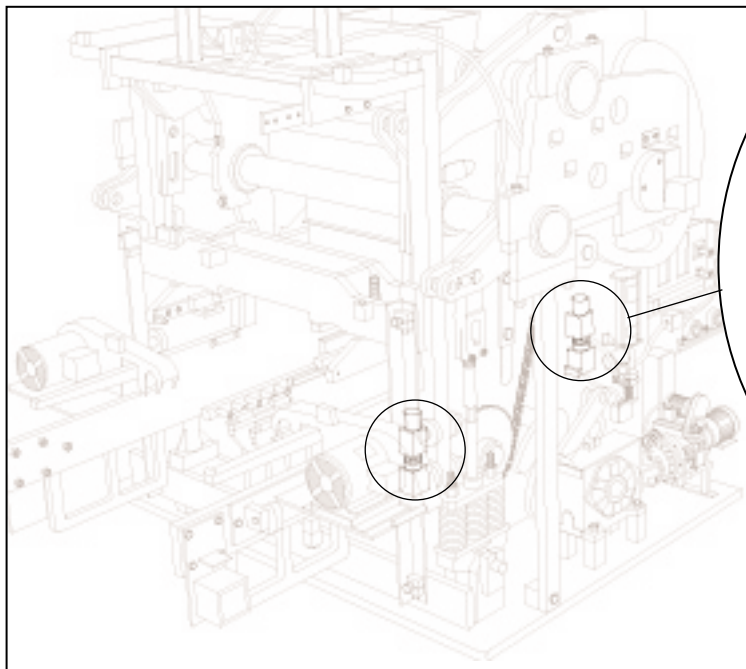

Figure 18.7 BOLTS AT ALL 4 CORNERS. (RIGHT SIDE SHOWN)
b. Loosen bolts at all 4 corners that secure mold throat assembly (See figures 18.7 and 18.8). Remove top spacers.